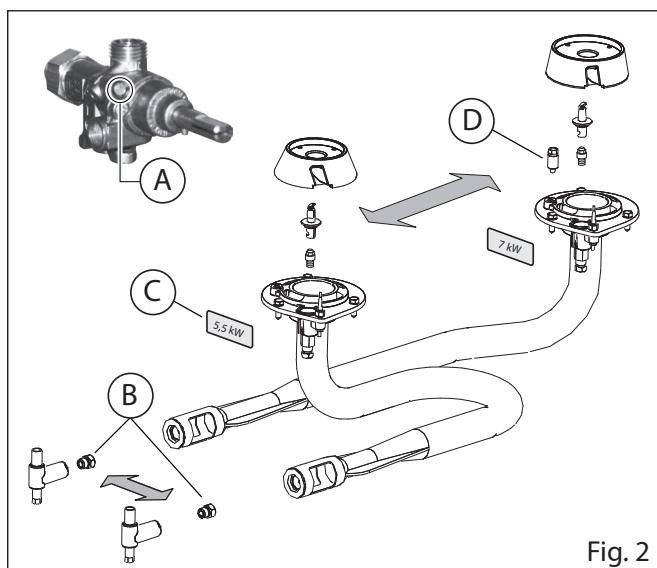

Fig. 2
- Adjust the minimum by-pass screw (Fig. 2/A)
- Unscrew the nozzles (Fig. 2/B) and screw them in the chosen position
- Remove the power plate (Fig. 2/C) and place it on the corresponding burner
- Unscrew the spacer (Fig. 2/D) and screw it in the chosen flange
- Unscrew the gas inlet (e.g. Fig. 2/E) and outlet (Fig. 2/A and B) connections.
- Unscrew the thermocouple (Fig. 2/D)
- Unscrew the thermocouple from the cut-off cock (Fig. 2/D)